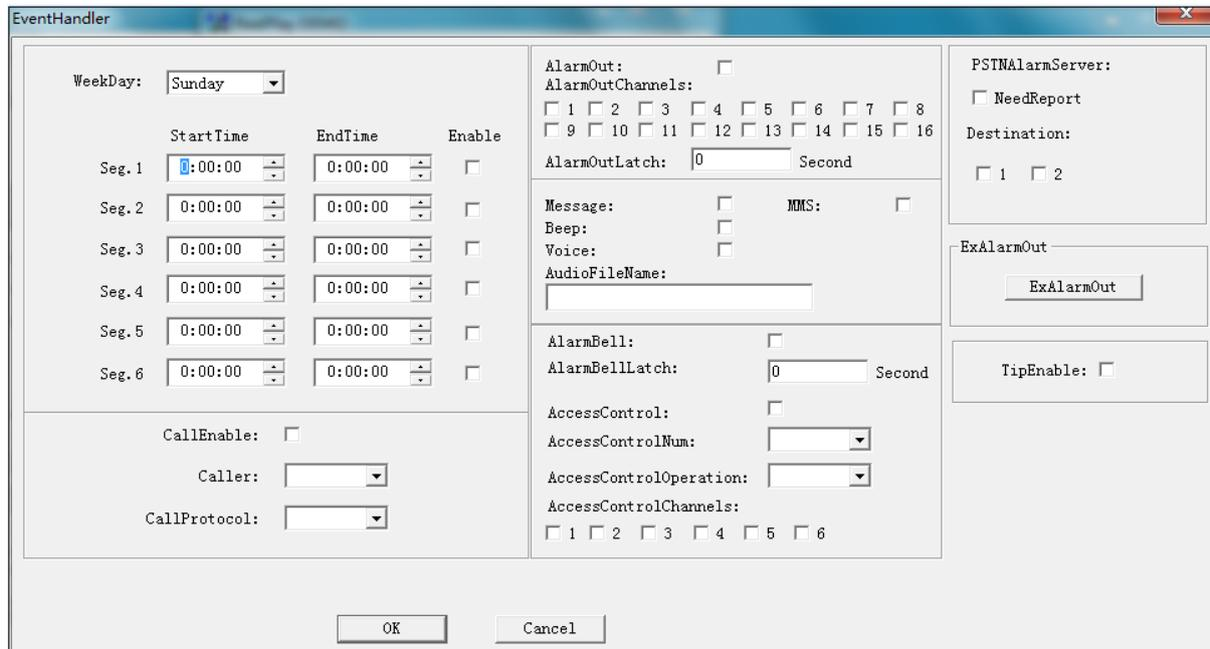

Figure 2- 10
Step 5. Click  next to link setup. See Figure 2- 10.